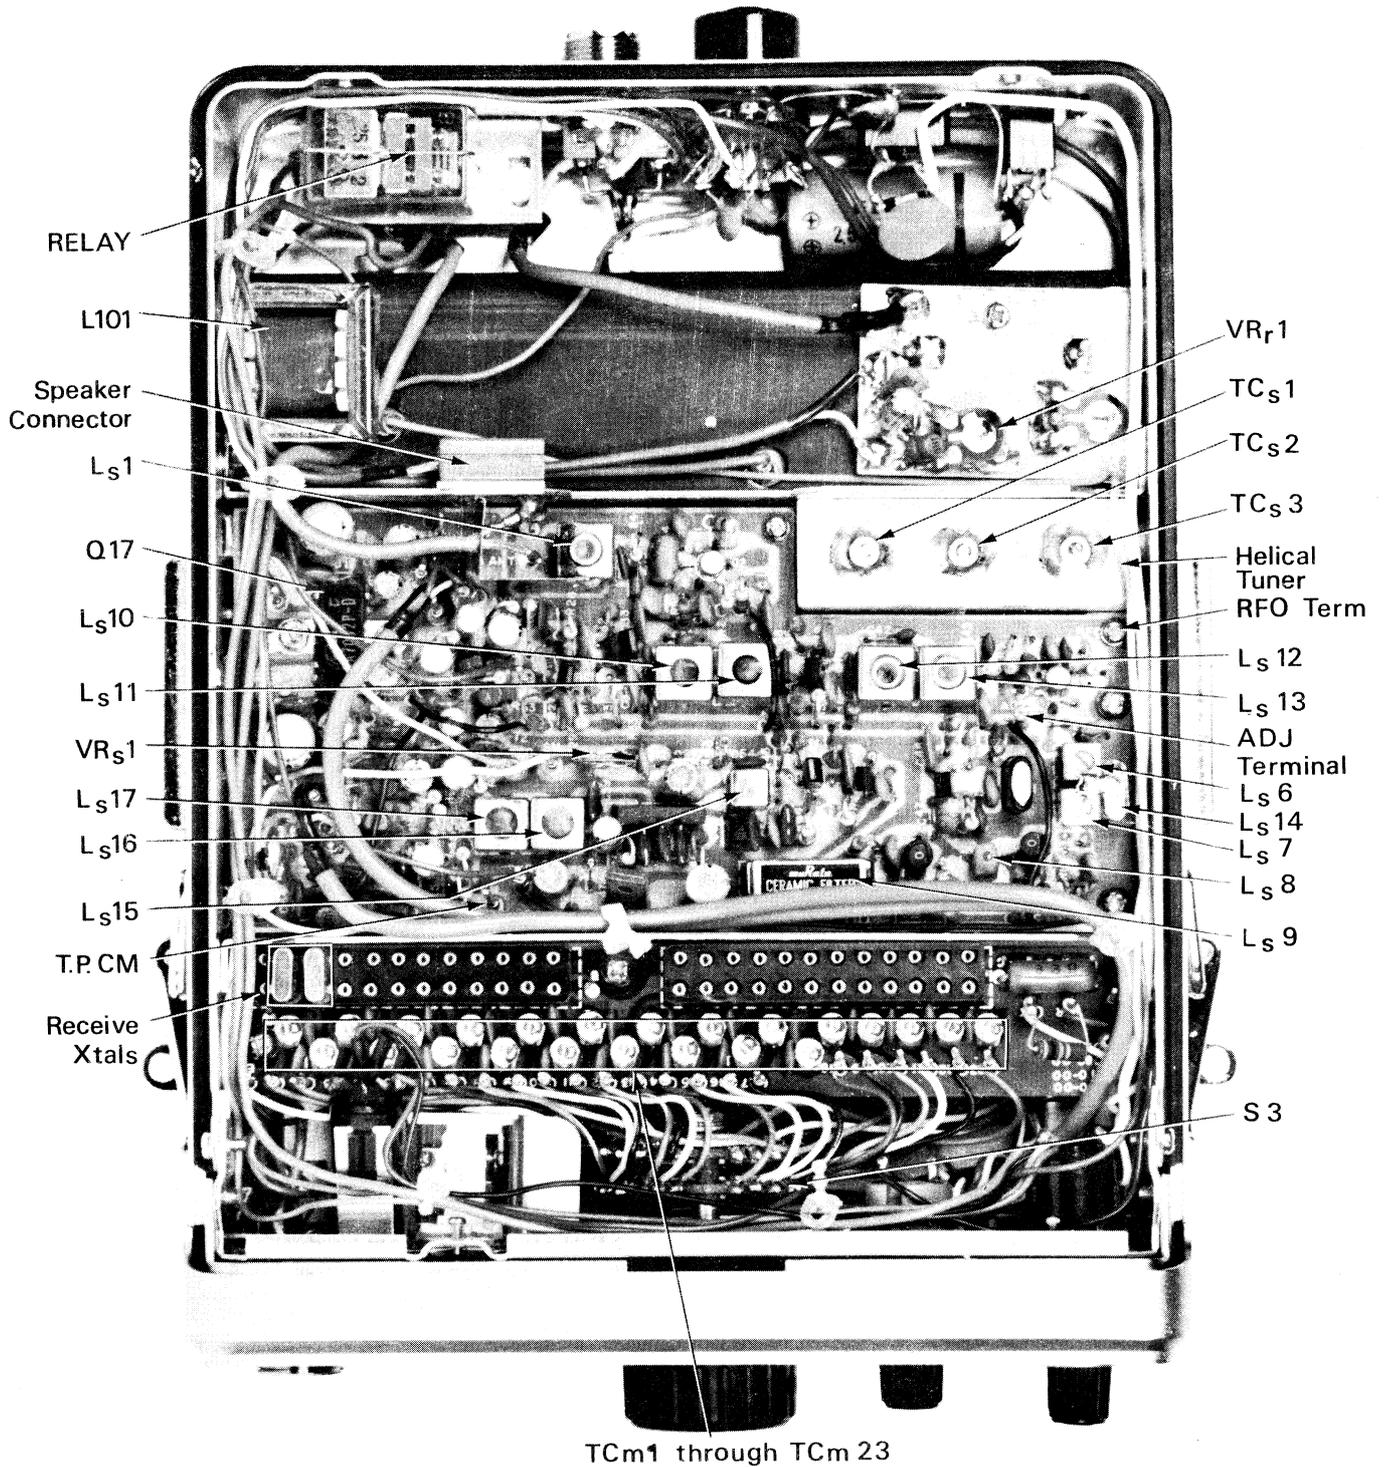

Figure 5-2. Receiver Alignment Locations (Bottom)
adjust the trimmer corresponding to the proper channel (see figure 5-2) for zero Volts on test point CM on receiver board or pin 9 on the Auxiliary connector.
- d. Refer to figure 5-2. Adjust VRr1 (500 Ohm) for minimum Voltmeter reading.